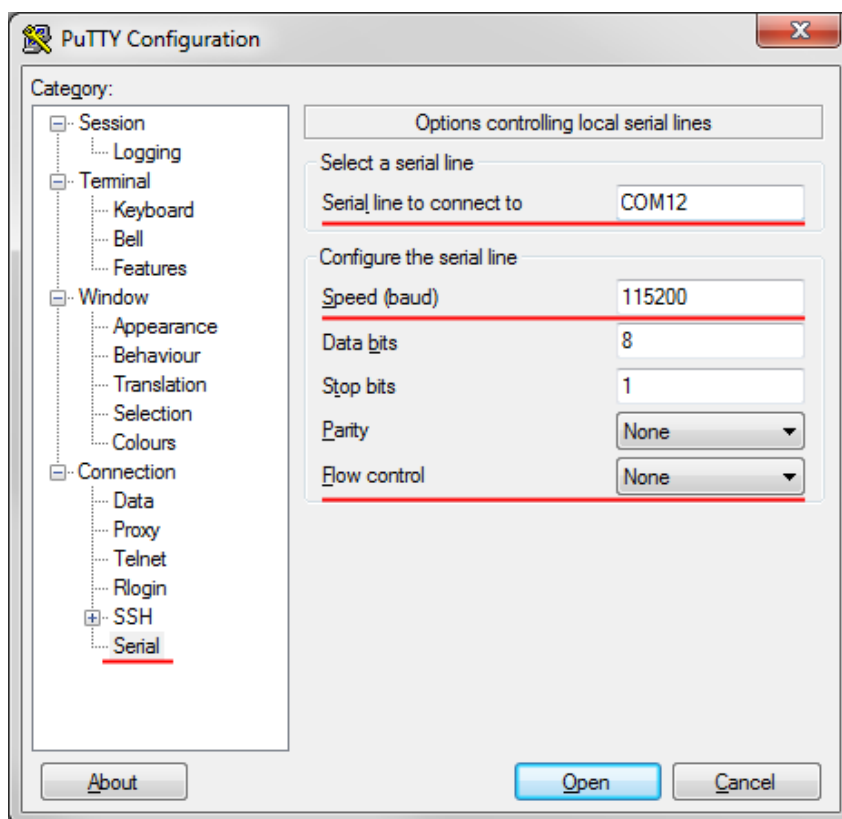

Figure 4-2 PuTTY interface
- 1) Open PuTTY and go to the “Serial” category. Specify your COM port number you will be using, change “Speed (baud)” to “115200” and “Flow control” to “None”, see Figure 4-2 PuTTY interface: